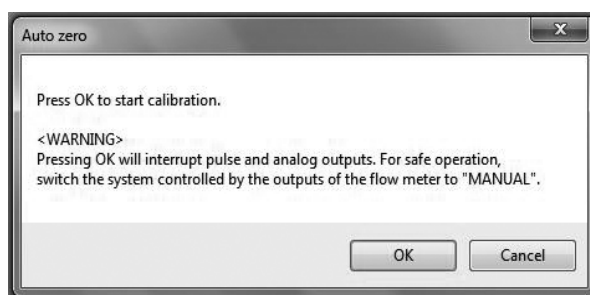

Fig. 3-62
- (3) Click "OK" button. By clicking it, the message box (Fig. 3-62) will be displayed.